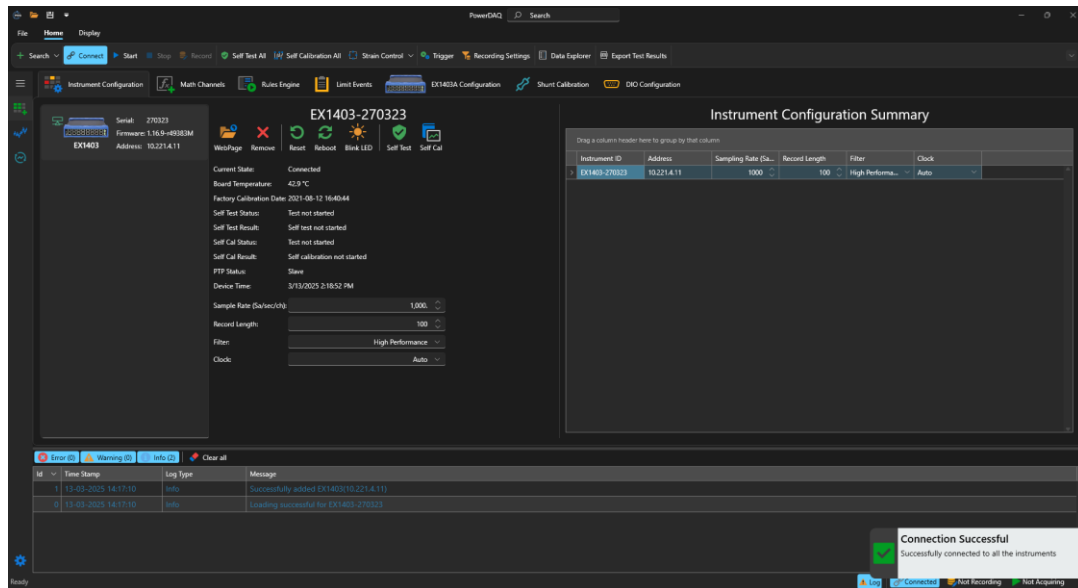

Figure 19. Instrument Connected
- Connect to the instrument by clicking the Connect button. Refer to Figure 19.
- Configure the sampling rate, record length, filter, and clock source as shown in Figure 19.